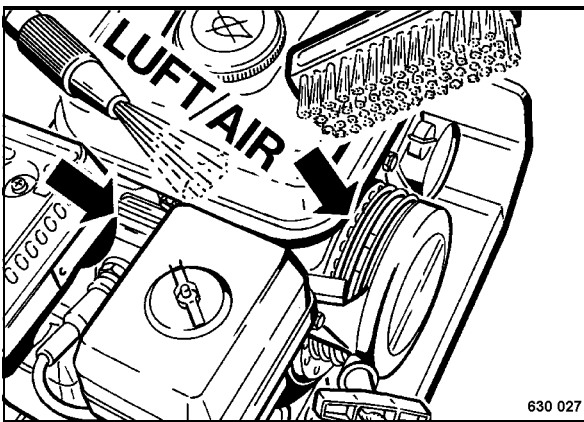

Fig. 31
- Brush off dried on dirt from all cooling fins and cooling openings and blow the dirt off with compressed air (Fig. 31).